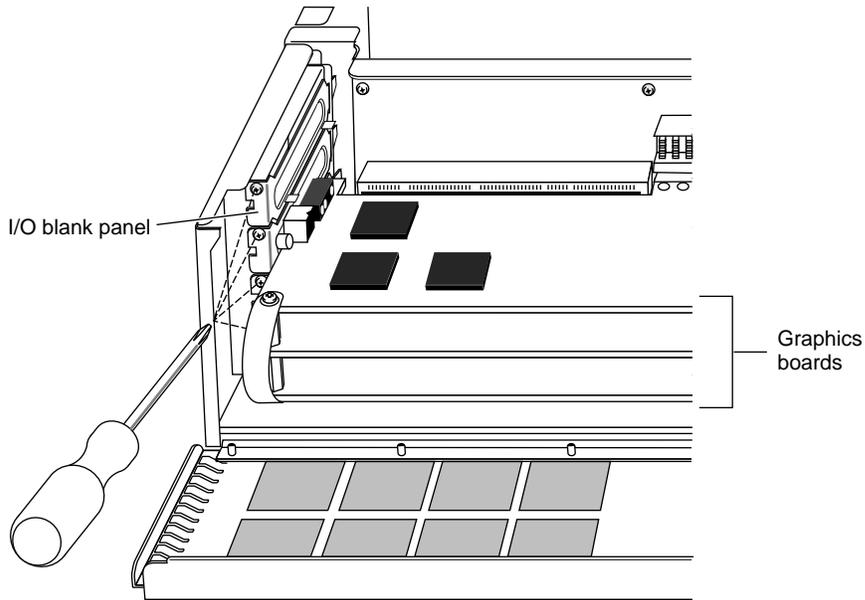

Figure 1-11 Removing the Slot Cover Screws and Slot Cover
6. Remove the screws that attach the blank I/O panel and the graphics boards to the chassis. See Figure 1-11.